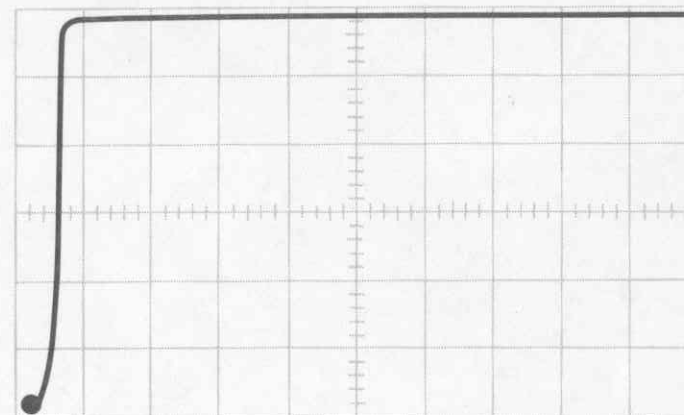

Figure 1-10
- ( ) Turn the VERTICAL SENSITIVITY control counterclockwise until the display is near the top of the screen as shown in Figure 1-10.